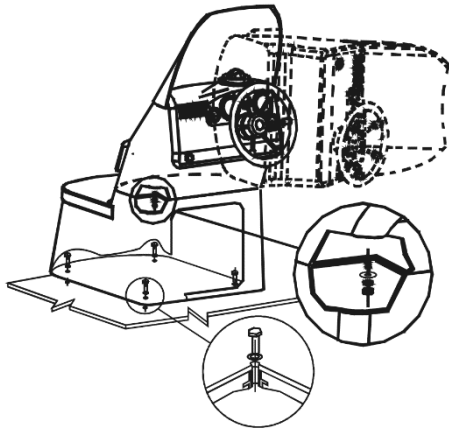

Fig. 6. Installation of steering console CL-12.
- Fix steering console to the deck by means of bolts M8*25 and toothed lock washer (see Fig.6).